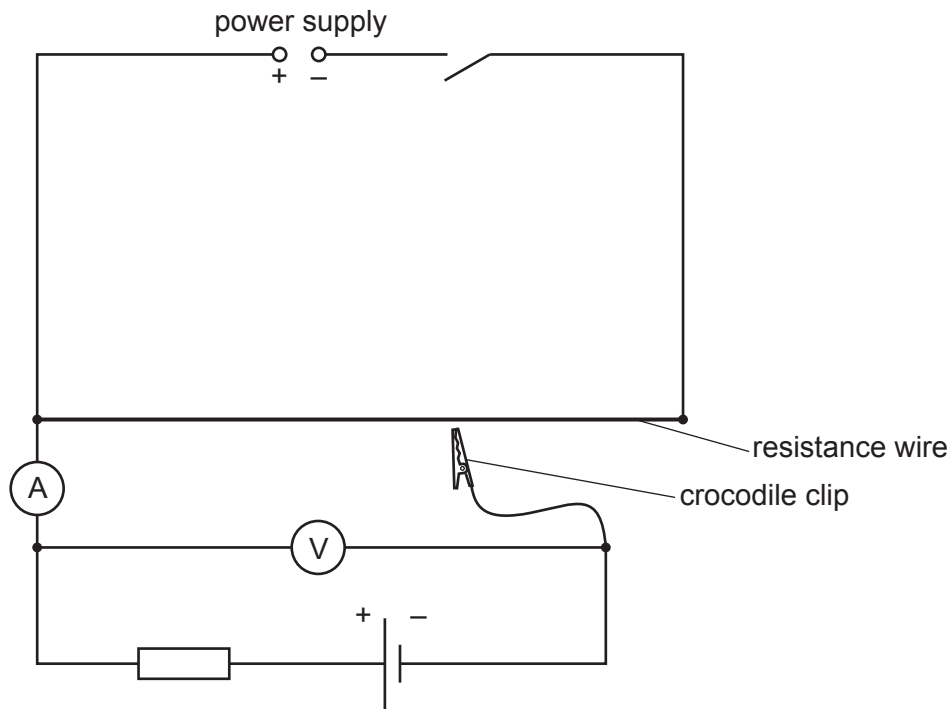

Fig. 2.1
- (vii) Sufficient connecting leads to set up the circuit shown in Fig. 2.1.
2. The circuit is to be set up for candidates as shown in Fig. 2.1.
It is important that the **polarity of the cell** and the **polarity of the power supply** are as shown in Fig. 2.1.
Ensure that the circuit is connected as shown in Fig. 2.1.